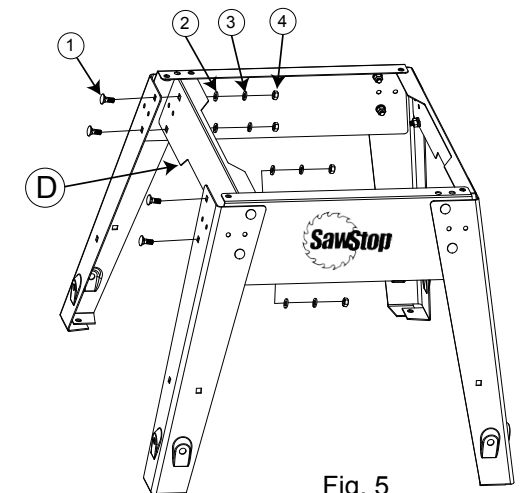

Fig. 5
5. Repeat the prior step to attach the remaining side panel marked D to the opposite side of the stand (see Fig. 5).